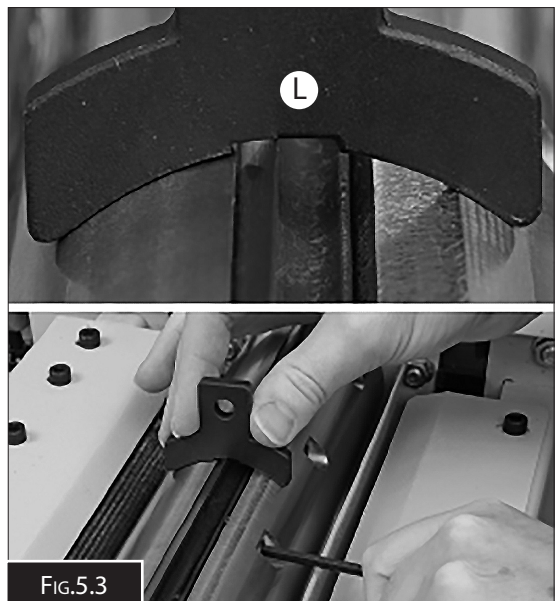

FIG.5.3
6. Place the new blade in front of the blade holder. Carefully position the blade and the holder to line up with the edge of the cutter block. Press the blade setting tool gently down onto the blade, ensuring the locating feet are firmly seated against the cutter block and the blade is against the setting recess. (Fig.5.3)
7. Hold the blade and setting tool (L) in position, and tighten two cap head screws to provide a firm clamp on the blade. Tighten the remaining cap head screws,